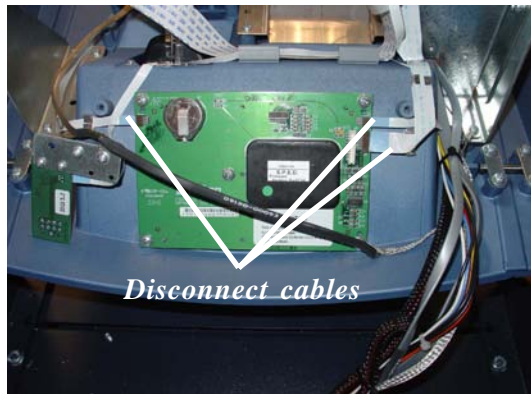
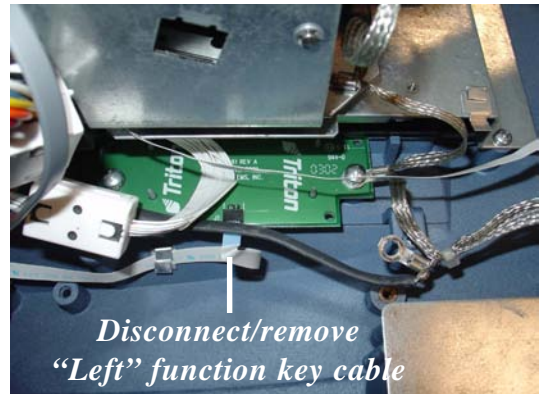
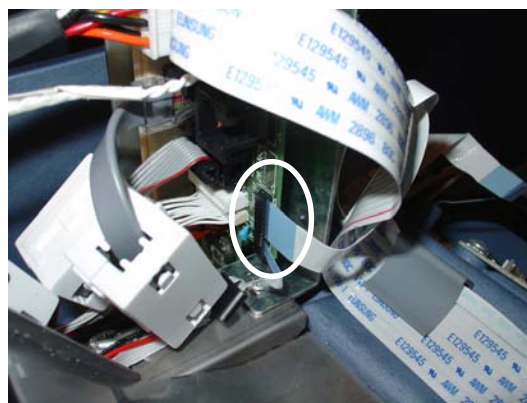

Figure 7. Disconnect cables from SPED.
Figure 8. Left function keys cable.
Figure 9. SPED data cable
6. Disconnect the two (2) function keys ribbon cables and the Data/Comm cable from the SPED board shown in Figure 7. Disconnect the other end of the **LEFT** side Function keys ribbon cable from the circuit board shown in Figure 8 and remove cable. Disconnect the other end of the Data/comm cable from the Docking board (Figure 9) and remove the cable. The Data/Comm and ribbon cable will be replaced with cables included in kit..